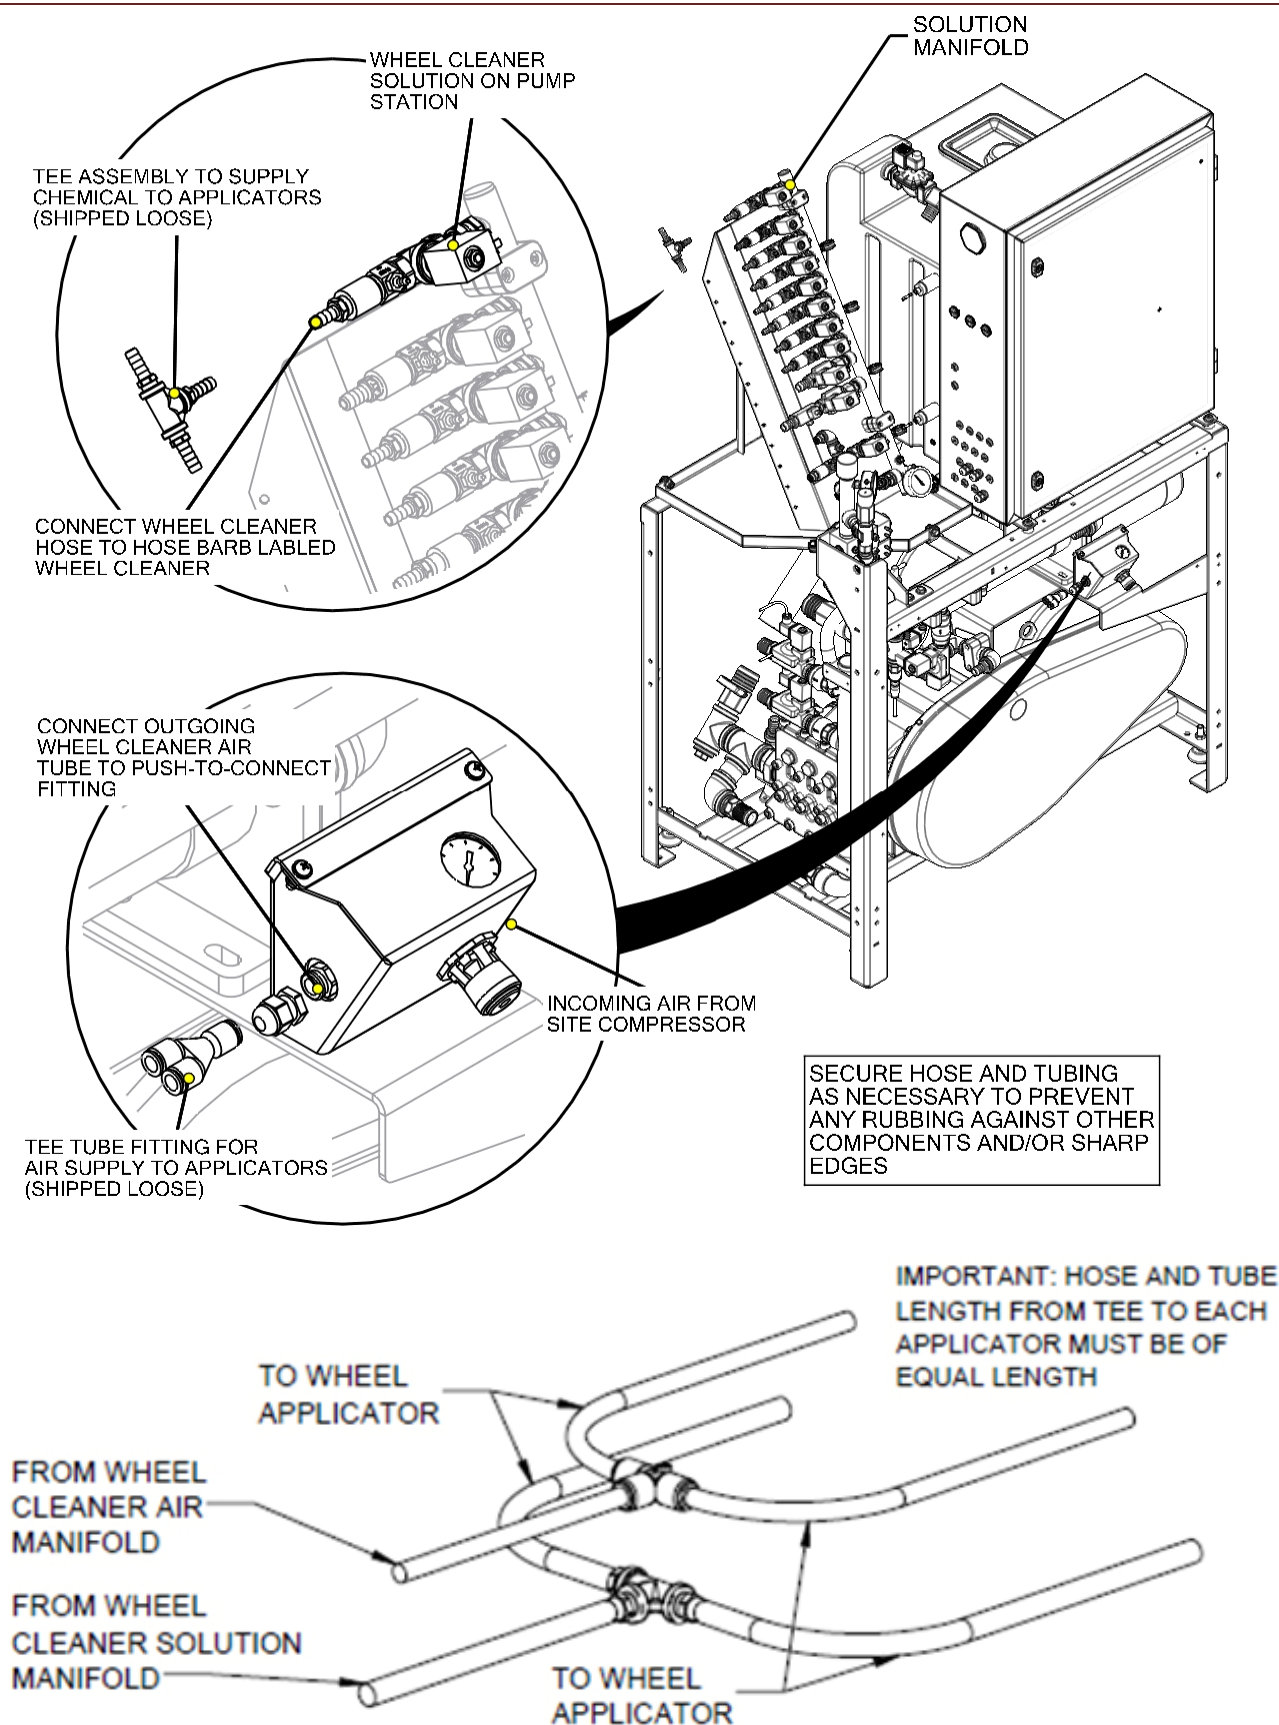

Figure 127 - Wheel Cleaner Solution and Air Supply Installation
- Install the Tee Assembly provided at the output of the wheel cleaner solution manifold with a piece of hose, Figure 127.
- Install the Tee Fitting provided at the output of the wheel cleaner air manifold with a short piece of tube, Figure 127.